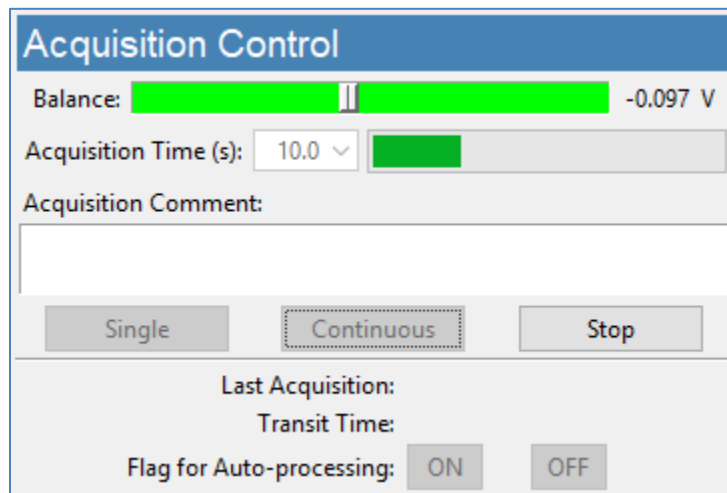

Figure 6. Acquisition Control frame.
- Continuous-mode acquisition may be manually started by pressing the “Continuous” button (Figure 6).